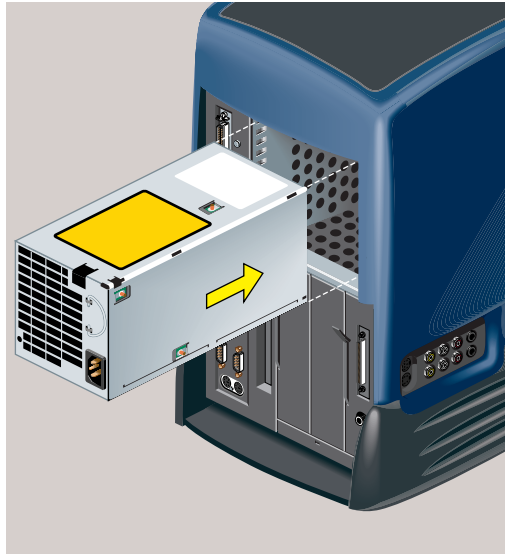

Figure 5-40 Installing the Replacement Power Supply
6. Slide the new power supply in to the chassis, pushing it until it stops (Figure 5-40).